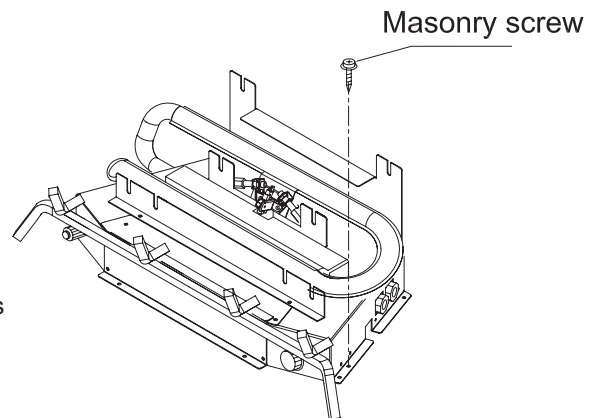

Figure 11 - Attaching Heater Base to Fireplace Floor
10. Attach base assembly to fireplace floor using two masonry screws (in hardware package) (see Figure 11).